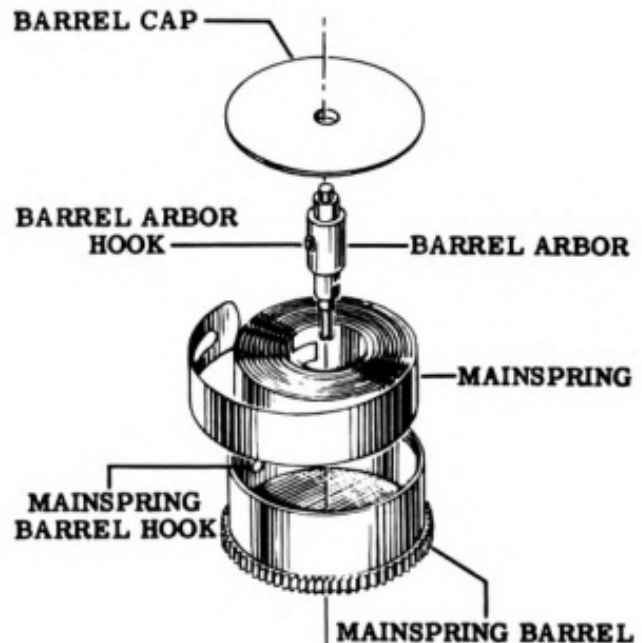

Figure 20
barrel components fit together is shown in Fig. 20.
8. Unhook the barrel arbor from the mainspring and remove the arbor. See Fig. 20.